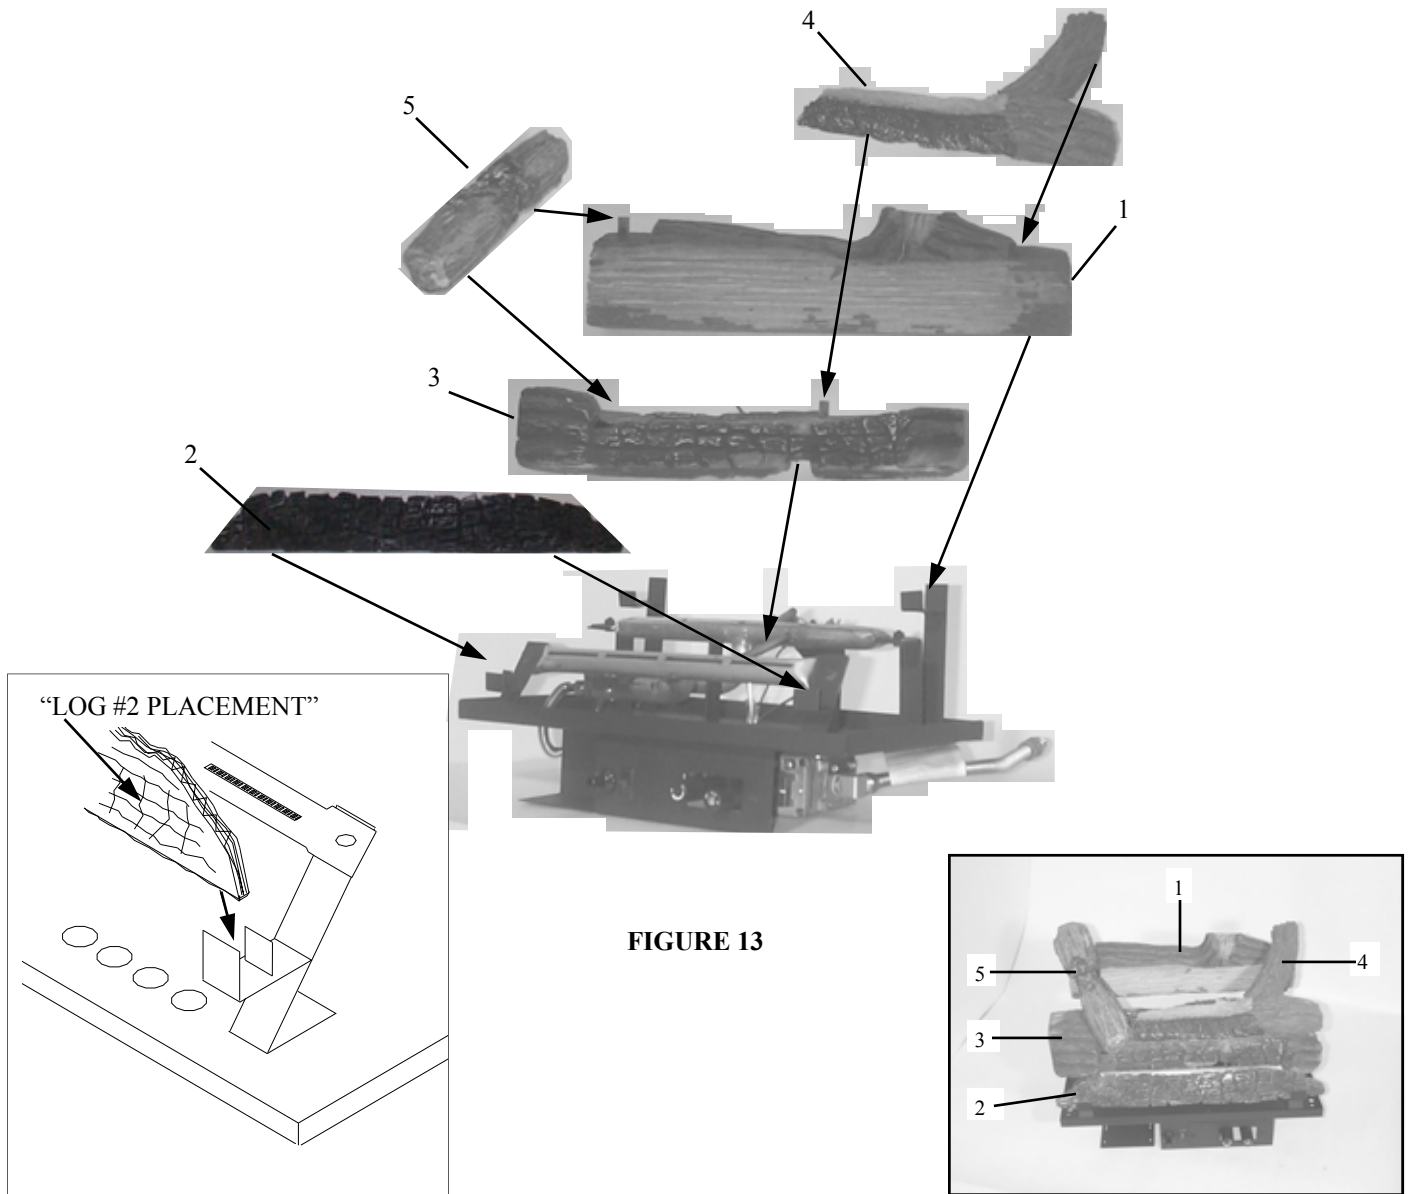

FIGURE 13
8. Position logs on base as shown on page 10, Figure 13. **IMPORTANT:** Make sure log does not cover any burner ports and does not touch the stove cavity.
**WARNING: POSITIONING LOGS IS VERY CRITICAL (SEE FIGURE 13).
3. Check all items for any shipping damage. If damaged, promptly inform dealer where you bought heater. Place the logs into the Firebox and follow the directions on page 10, Figure 13.
9. After lighting the heater check to ensure that the log placement is correct, and that no flame is coming in contact with the logs. If log placement is incorrect reverse steps 5 and 6, and see page 10, Figure 13.